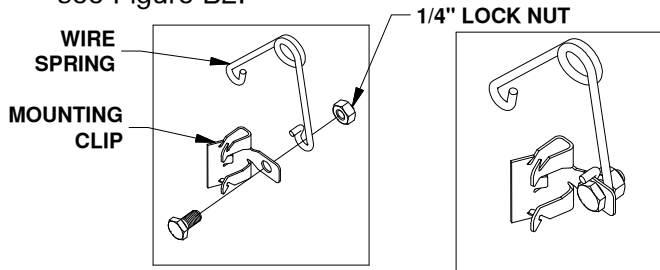

Figure B1:
- 1. Assemble kit.** Locate the 1/4" cap screw and nut, along with the wire tension spring and mounting clip. Pass the 1/4" cap screw through the mounting clip and the wire spring as shown in Figure B1. Thread the 1/4" lock nut onto the 1/4" cap screw. Tighten the lock nut just enough that the spring will stay in place but will still be able to rotate around the bolt if needed, see Figure B2.